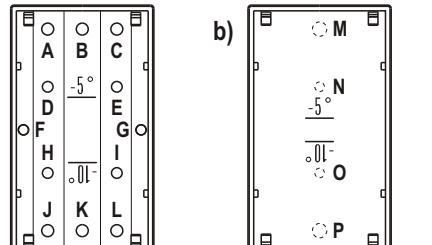

Fig. 3 Brackets: a) Corner/Side-mount; b) Backplate-mount
- 3. Select the appropriate bracket then remove the knockouts, as per Table 1 and Figure 3.
- 4. Pass the connection wires (not the insulation) through the wire entry (see Tab. 1 and Fig. 3).
- 5. Position the bracket as required (see indications on bracket) then, using the anchor screws, secure it in place (see Tab. 1 and Fig. 3).
Tab. 1 (Refer to Fig. 3) The first line shows the possible values of the vertical angles; the first column shows the possible values of the horizontal angles. In this column «right» indicates that the detector, seen from the front, is facing right with an angle of 20°; «left» indicates that the detector is facing left with an angle of 20° (-20°). The last column shows the bracket knockouts (mounting) and wires entry knockouts (entry). The underscored letters indicate CONNECTIONS Use shielded cable for the connection. Connect one end of the shield to the Control panel negative and leave the other end (detector end) disconnected. If the detector is a considerable distance from the Control panel, check for voltage drop (required voltage range: 9 V to 15 V).